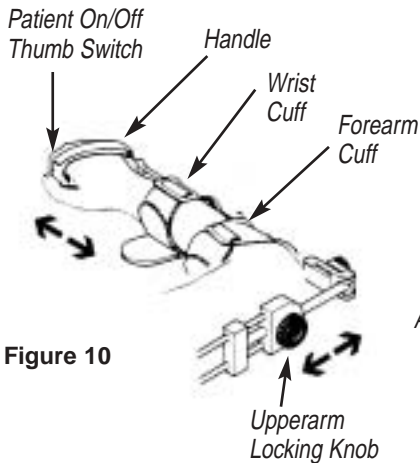

Figure 10
- See Figure 10. Loosen the Upperarm Locking Knob located on the Upperarm Frame and adjust to position the patient's forearm comfortably in the Forearm Cuff. Tighten the Upperarm Locking Knob. Secure the Forearm Cuff with the Velcro fastener.